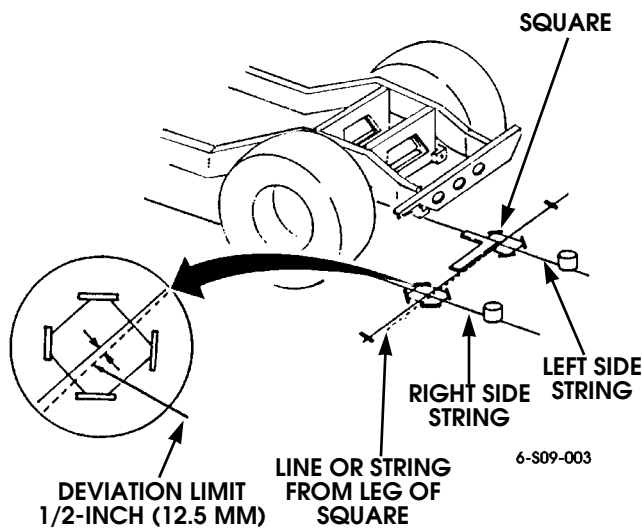

Figure 9-163: Diagonal Skew Measurement Method 2
1. Position a string across a plumb bob point on each of the frame rail strings (Figure 9-163).
2. Place a square with one leg coincident with a frame rail string (Figure 9-163).
3. Run a line or string along other leg of square to opposite frame rail string (Figure 9-163).